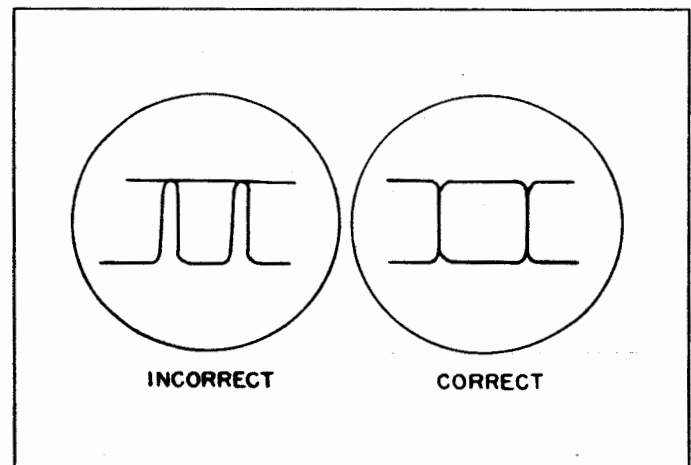

Figure 6-1. Test Oscilloscope Patterns for % MARK Control Adjustment
(1) Set the SPEED switch to ADJ position.
(2) Connect an external test oscilloscope such as Navy OBL or OBT series across a 20-ohm resistor connected to a plug inserted in the TTYT jack.
(3) Set the test oscilloscope sweep speed for approximately 90 cycles with sync off.
(4) Adjust the sweep control on the test oscilloscope for the peak of one cycle to be centered in the trough of another cycle (see Figure 6-1).
(5) If the troughs and peaks are unequal in width adjust the % MARK control to make them equal.